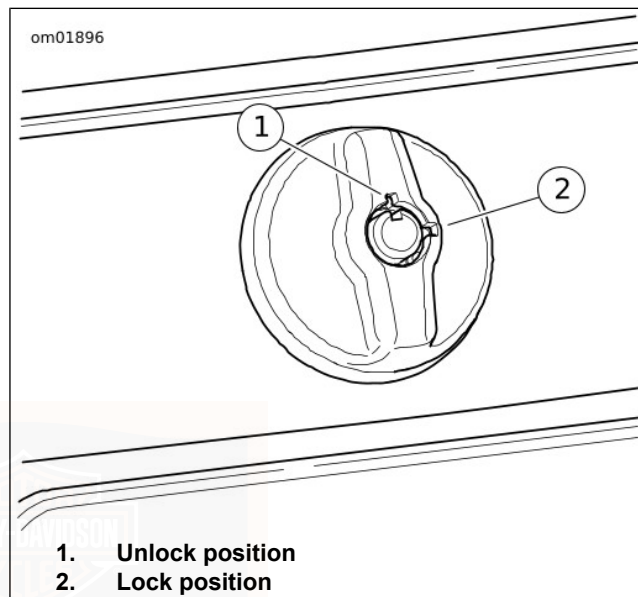

Figure 30. Trunk Lock
1. See Figure 30. To unlock trunk, insert key into barrel lock and turn one-quarter turn counterclockwise. Remove key.